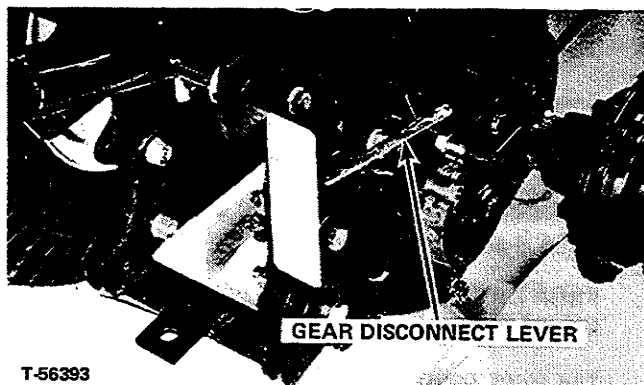

FIGURE 5
The disconnect lever, at rear right hand corner of tractor (Figure 5), must be pulled up to a vertical position to disengage the gears. It must be pushed to the right as shown to engage the gears for tractor operation.
1. Be sure gear disconnect lever at transmission is engaged, (Figure 5). With engine running set throttle control lever between 1/4 and 1/2 open.